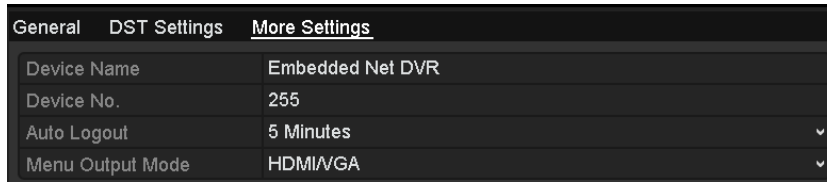

Figure 16. 4 More Settings Interface
2. Click the **More Settings** tab to enter the More Settings interface, as shown in Figure 16. 4.